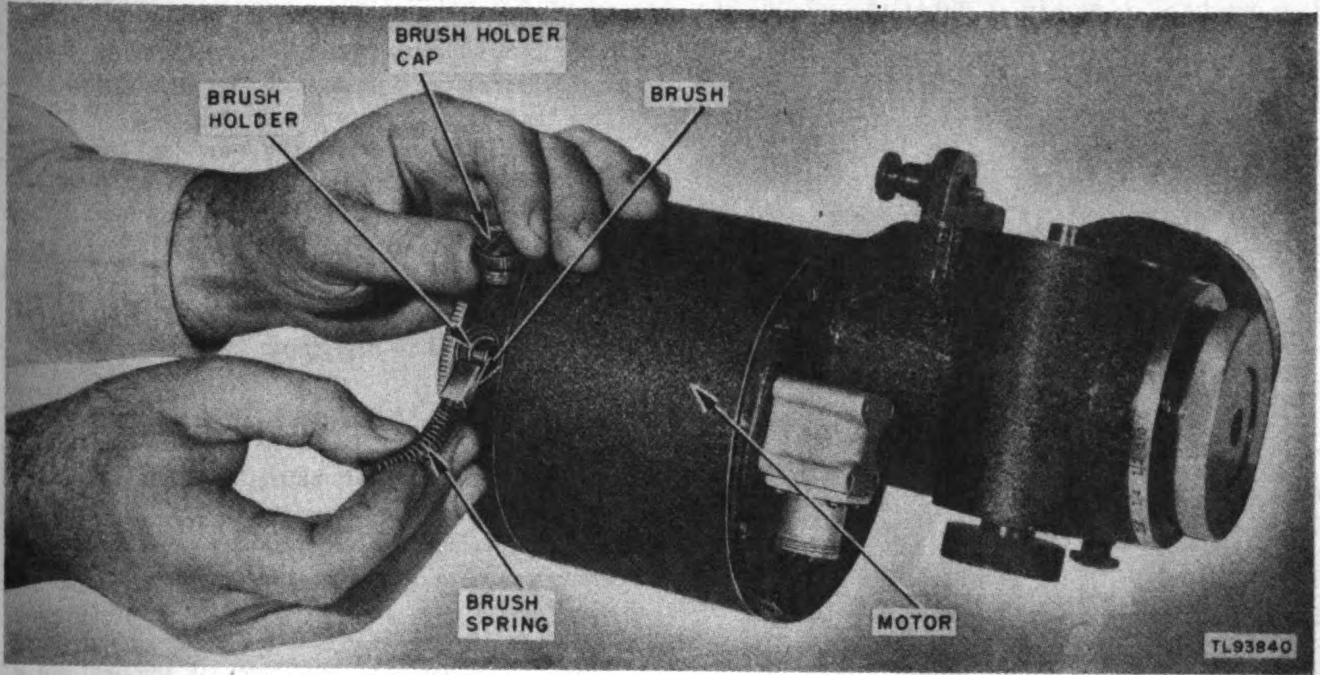

Figure 133. Installing motor brushes.
73. Replacing Drive Motor Brushes (fig. 133)